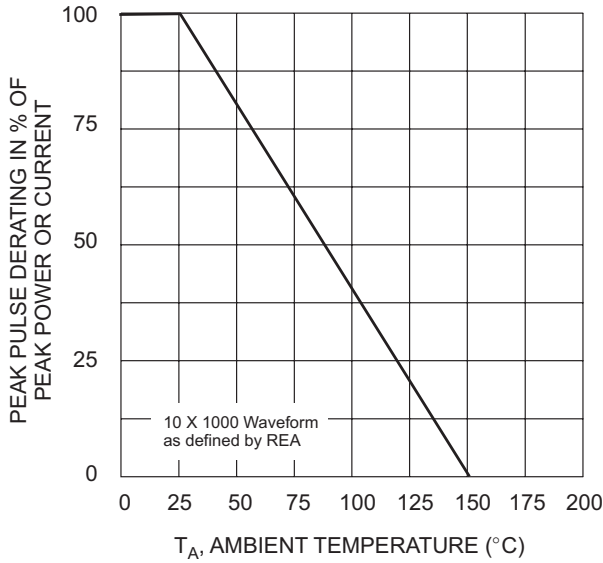
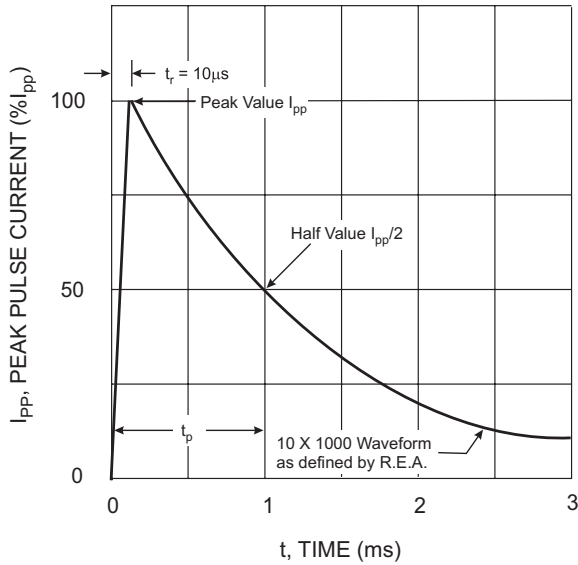
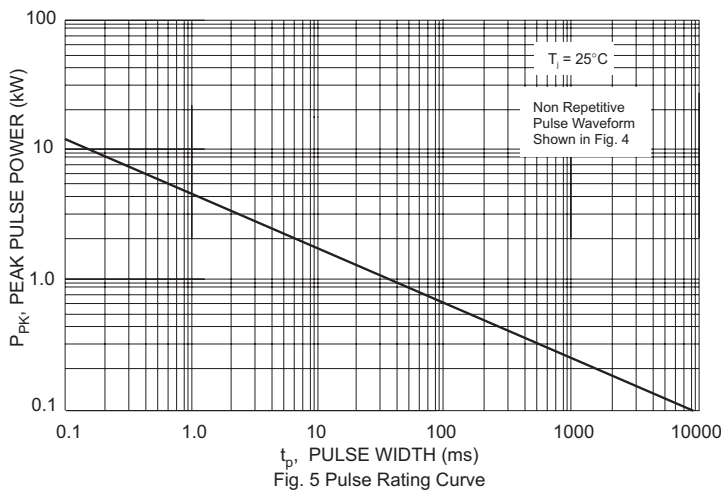

Fig. 1 Pulse Derating Curve
Fig. 3 Pulse Waveform
Fig. 5 Pulse Rating Curve
1. Non-Repetitive current pulse as shown in figure 3 and derated above T_A = 25°C as per figure 1.
2. Non-Repetitive current pulse as shown in figure 5 and derated above T_A = 25°C as per figure 1.